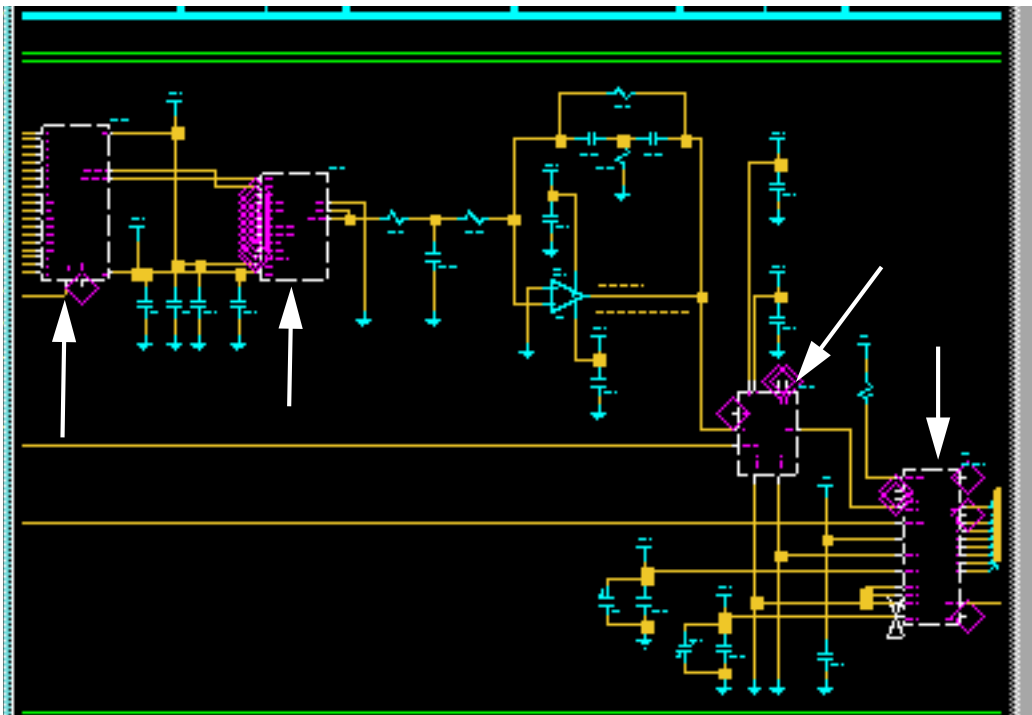

Figure 2-46. Selected Components on A_D_BLOCK
9. Maximize the window and click the Select mouse button on each of the four main components on the a_d_block sheet, identified by arrows in Figure 2-46.
1. Select any one component on the a_d_block sheet. The a_d_block sheet is shown in Figure 2-46 on page 2-55.